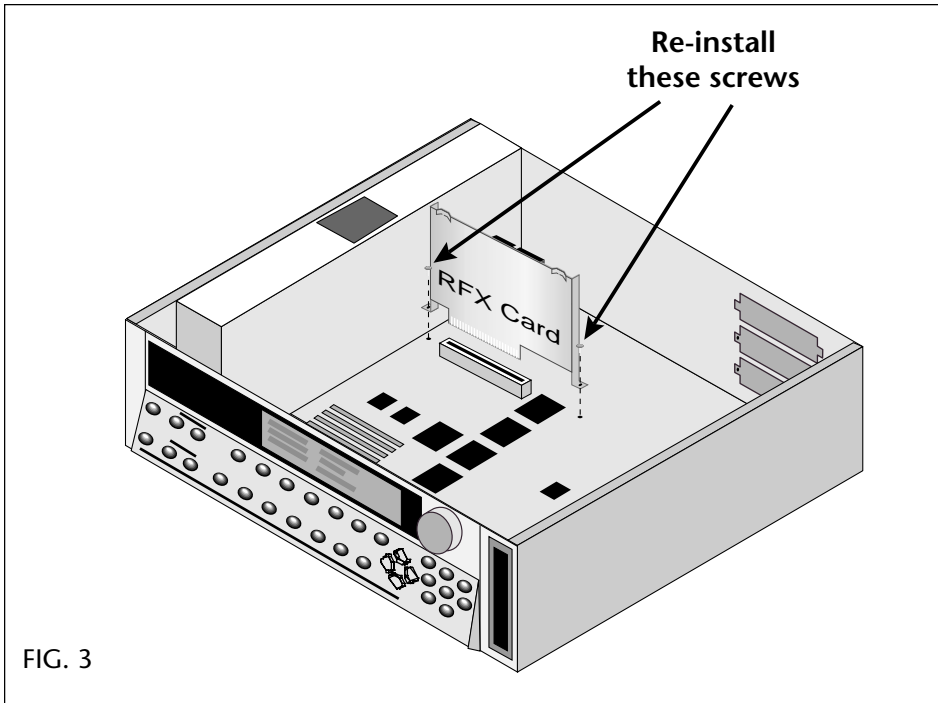

FIG. 3
2. Install the RFX board as shown in Figure 3 below. The card can only be installed one way. Replace the two screws you removed in the previous step and screw them down tightly. The RFX card should be held rigidly in place.